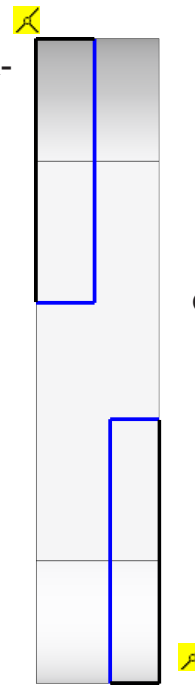

Fig. 11
Step 4. Sketch corner **two rectangles** starting from corner endpoints, **Fig. 11**.